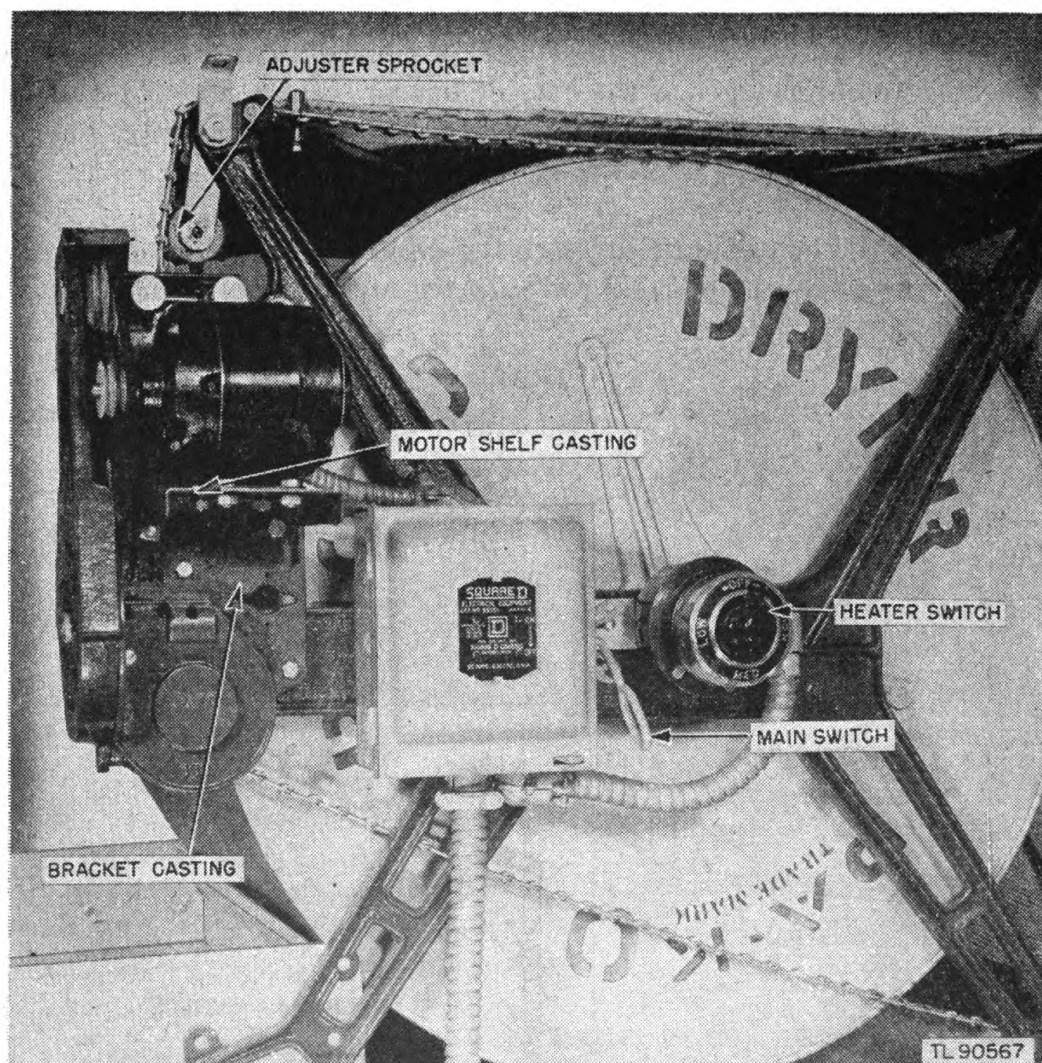

Figure 16. Dryer PH-176, right side detail view.
c. Watch the pyrometer (fig. 17) carefully while drying prints. It indicates the degrees of heat of the drum as **LOW, NORMAL, or HIGH.** Too much heat will dry the prints to excess, causing them to be brittle, and to wrinkle at the edges. The stages of heat as recorded on the pyrometer compare roughly with the settings of the heater switch **LOW, MED, and HIGH** (fig. 16). When the dryer is running at full capacity, it is generally best to run it on **HIGH**, but great care must be taken not to overdry the prints. Before
**a. Safety Switch.** If the safety (main) switch becomes defective, it is necessary to remove and replace it. If it is not bent by some heavy blow or allowed to become very dirty, the safety switch will operate indefinitely (fig. 16).
(1) To remove the safety switch, disconnect from the binding posts the two wires leading from the switch to the motor. Remove the locknut from the angle connector through which the armored cable is fed into the switch box. Lift the connector from the box.
(2) Repeat this procedure with the connector through which the wires from the porcelain base switch are fed into the box. Lift this connector from the box.
**b. Heater Switch.** Pull the knob outward (fig. 16), turn it to the left until unscrewed. This frees the bakelite cover and exposes the wiring connections. Label the terminals and the wiring before disconnecting them.